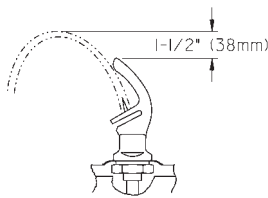

FIG. 5
- Check stream height from bubbler.** Stream height is factory set at 45-50 PSI. If supply pressure varies greatly from this, adjust screw on regulator (Item 9). Clockwise adjustment will raise stream height and counter-clockwise adjustment will lower stream height. For best adjustment stream height should be approximately 1-1/2" (38mm) above the bubbler guard. (See Fig. 5).